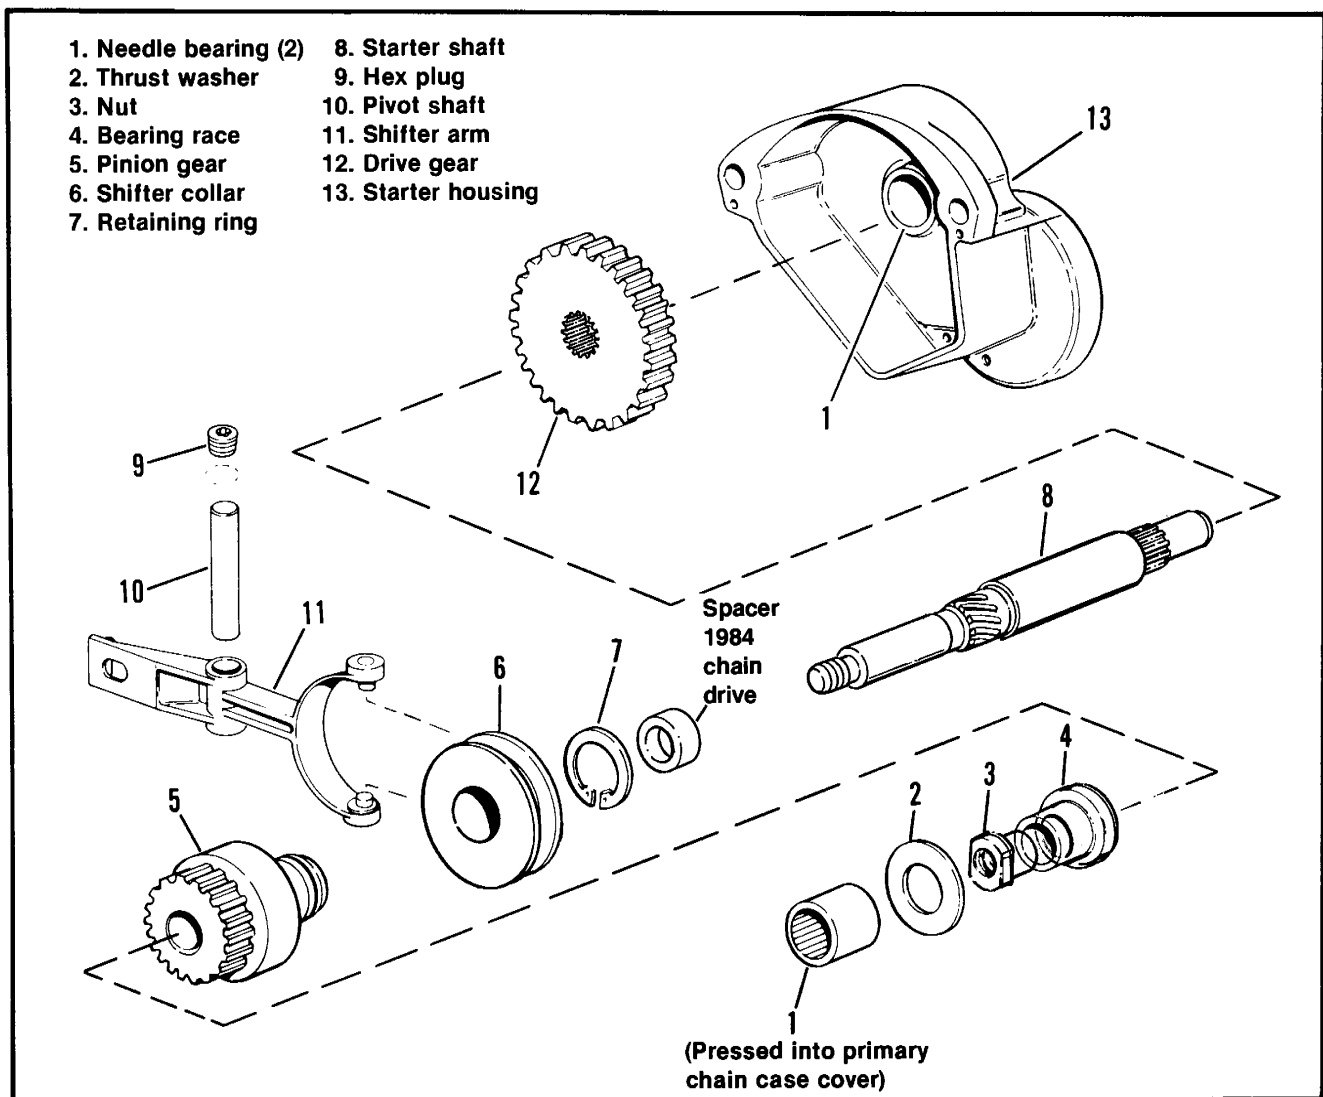

Figure 5-17. Starter Shaft
1. Place the drive gear (12, Figure 5-17) on the drive shaft and install the starter motor assembly on the primary chaincase.
REMOVAL (Figure 5-17)
DISASSEMBLY (Figure 5-17)
ASSEMBLY (Figure 5-17)
INSTALLATION (Figure 5-17)